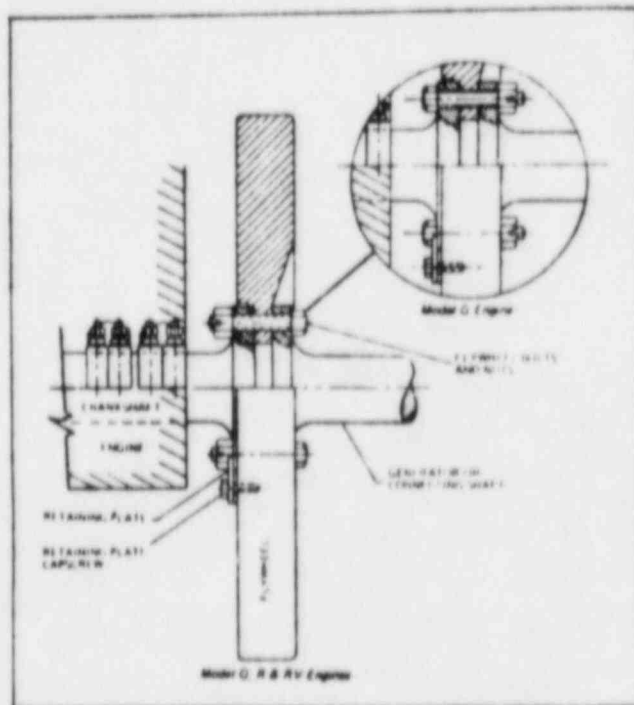

Figure 2-2 Flywheel Mounting
a. Apply a thin coat of preservative to the mating surfaces of the flywheel and the flange, then ^{**}mount the flywheel on the engine crankshaft flange. Make sure no dirt is allowed between the mating surfaces while the flywheel is being mounted. Install three retaining plates (see figure 2-2) and draw the flywheel up on the flange until it is seated.